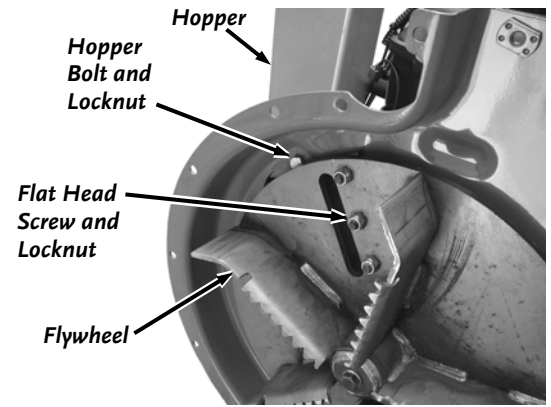

Figure 26
5. Remove the two Nuts from the Hopper Studs (**Figure 26**).